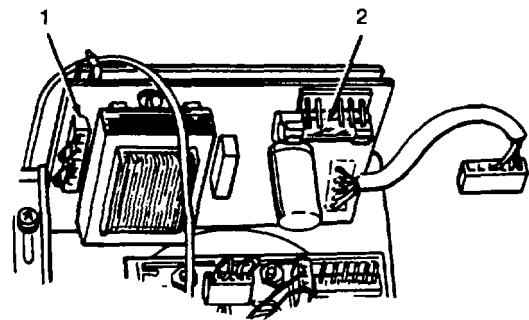

Figure 4-1. Fuse Replacement.
- (1) Remove the fuse(2, fig. 4-1) found at upper right corner of the power supply board(I) and replace.
- (2) Ensure that the unit is properly connected for ac operation. See paragraph 2.6.2.3 a.